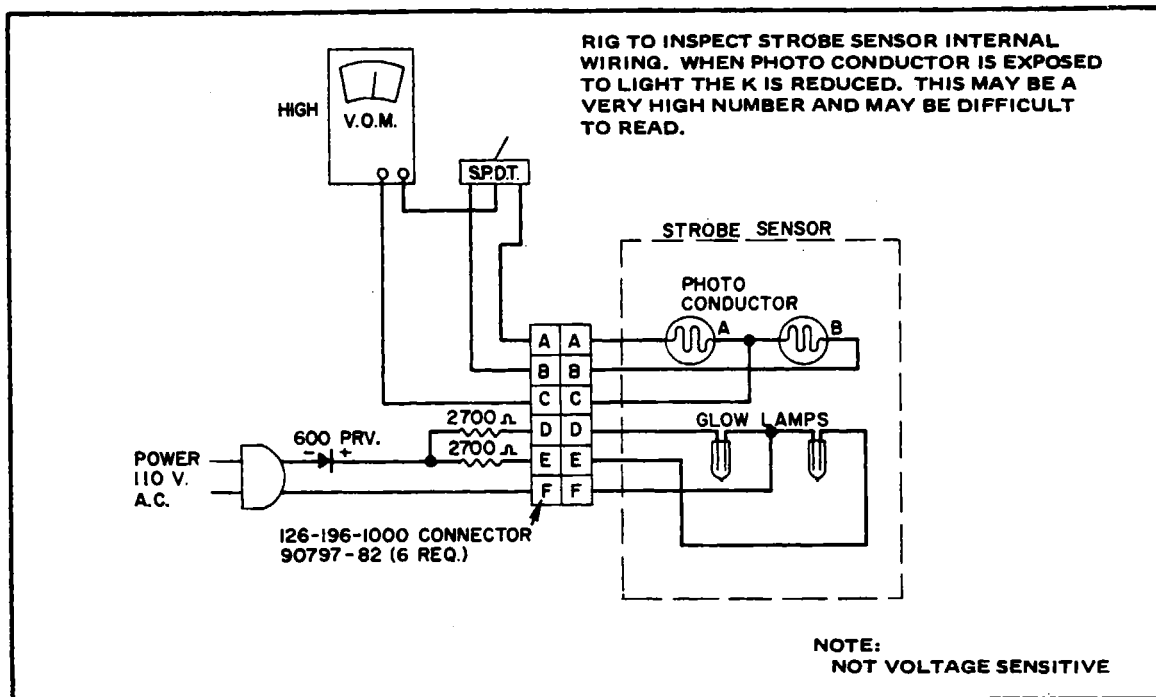

Figure 14-48. Strobe Sensor Internal Wiring Test Unit
- (a) Connect the fabricated strobe sensor tester (refer to Figure 14-48) to the strobe sensor plug in the right nacelle.